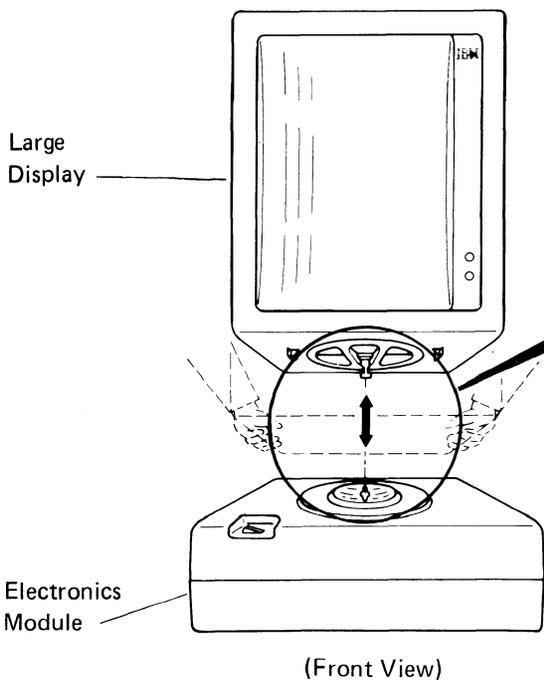

Figure 17 - Large Display Module Removal
4. Be sure the display module is facing straight forward and is exactly level (not tilted) (see Figure 17).